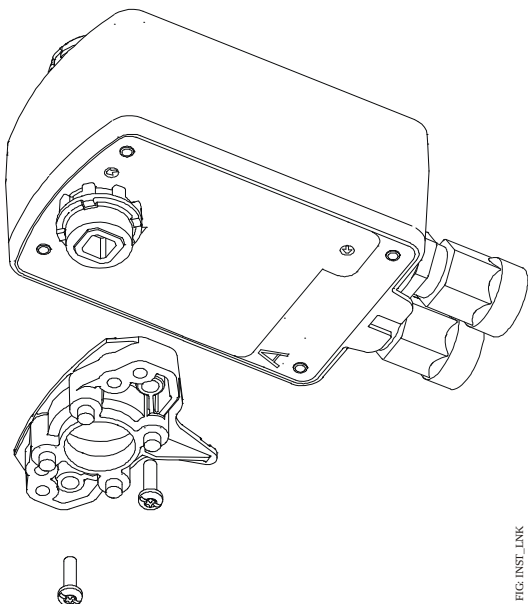

Figure 13: Installing the Linkage
5. Install linkage base on Side A using the two #8-32 x 0.625 in. long screws (Figure 13). The recommended torque is 29 to 33 lb·in. (3.3 to 3.7 N·m).